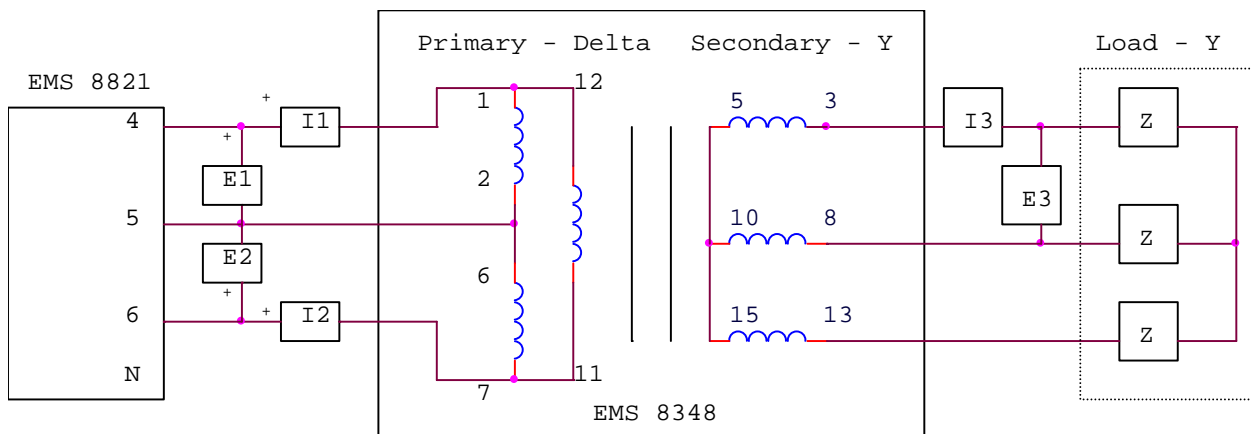

Figure 7: Δ -Y connected three-phase transformer for part five.
17. Repeat steps 13 and 14 using the circuit of Figure 7.